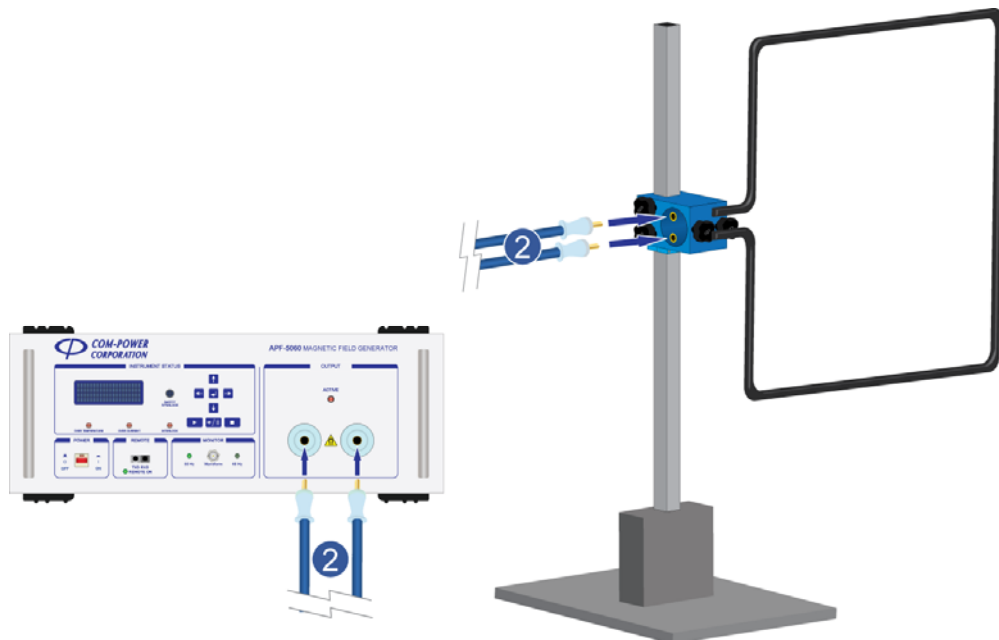

Figure 10 - Assembly Instructions - Coil Mounting Structure – Step #6
- Step #6** Using the (2) generator output cables², connect the generator output to the loop coil input as shown in Figure 10.